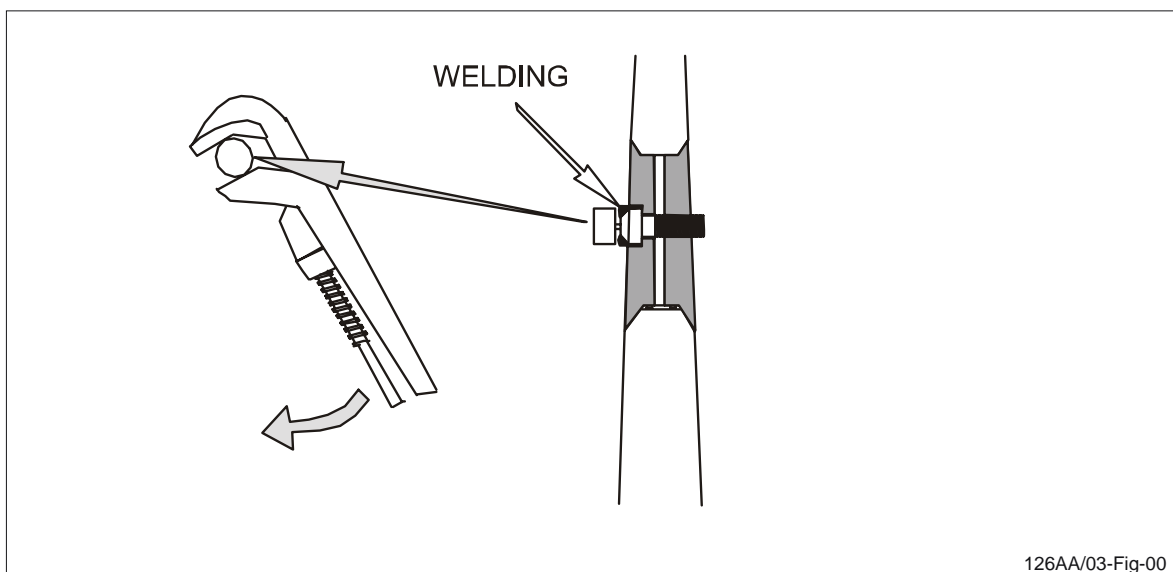

Figure 16 The crack bolt is secured by welding.
5. Use a new crack-bolt and tighten the crack-bolt until the crack bolt head breaks off (see figure 16).